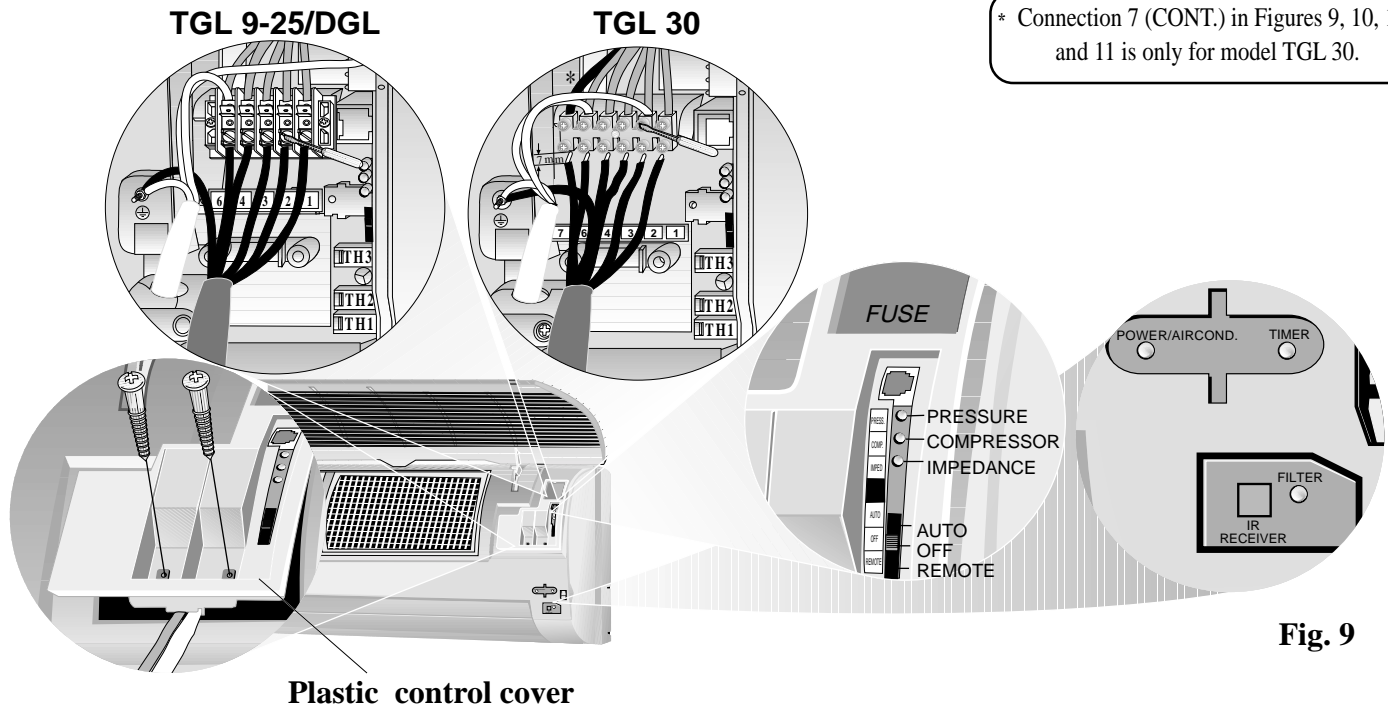

Fig. 9
- Remove the two screws from the plastic control cover as shown in Figure 9.
- For TGL 25/30 model use a screwdriver to insert the bracket pad wire ends (7 mm) into the terminal block, as shown in Figure 9.
- Close the Plastic control cover with two screws. Keep the Electric cable and Outdoor sensor cable in between. See Figure 9. If plastic control cover will close not properly the wiring and cover could be damaged!
* Connection 7 (CONT.) in Figures 9, 10, 10a and 11 is only for model TGL 30.